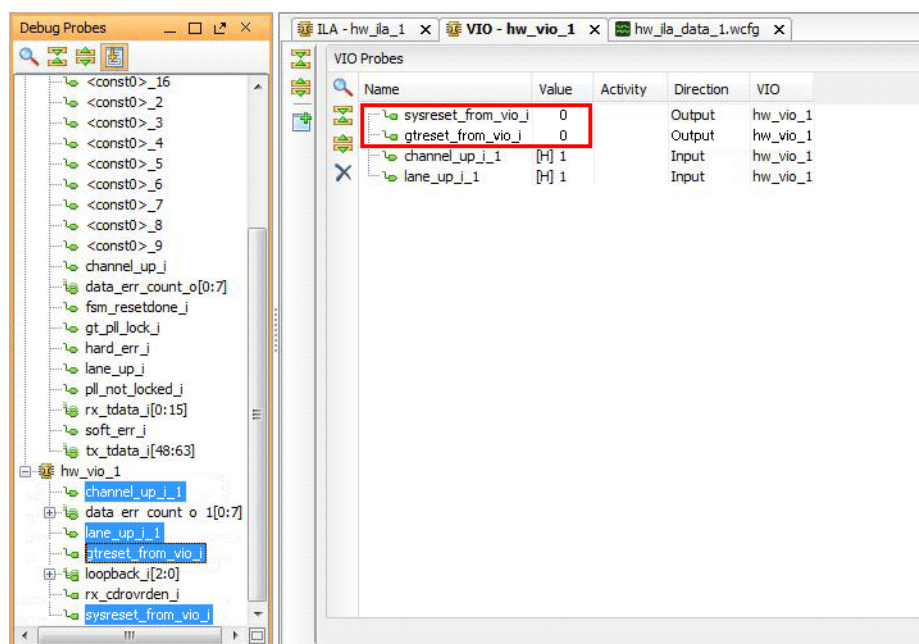

Figure 26: Add Probes to VIO Window
3. Right-click the selection and select **Add Probes to VIO Window** (Figure 26).